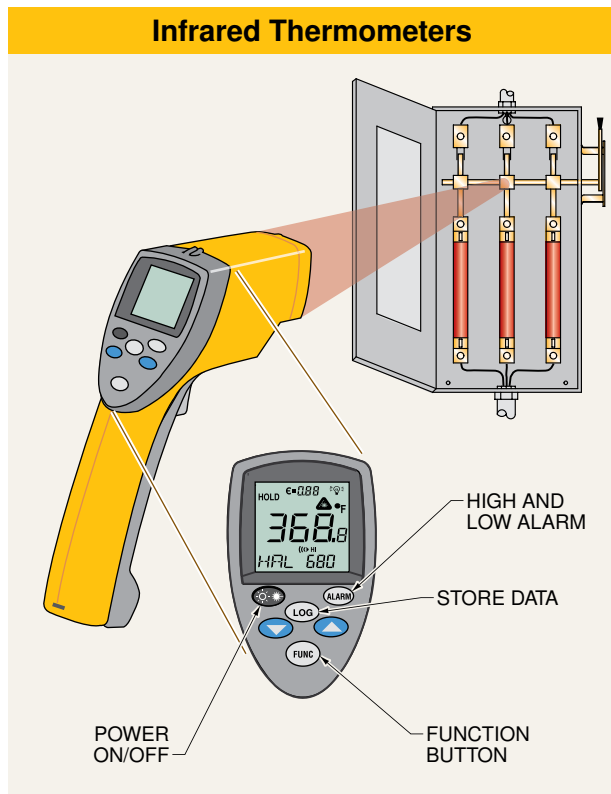

Figure 2-32. An infrared thermometer is used as an inspection tool to check for the presence of a component malfunction.
Infrared Thermometers. All materials or components emit infrared radiation in proportion to their surface temperatures. The higher an object's temperature, the greater the amount of infrared radiation emitted. An *infrared thermometer* is a handheld device that detects infrared emissions to measure temperature. Infrared (IR) thermometers are commonly referred to as noncontact temperature probes. **See Figure 2-32.**